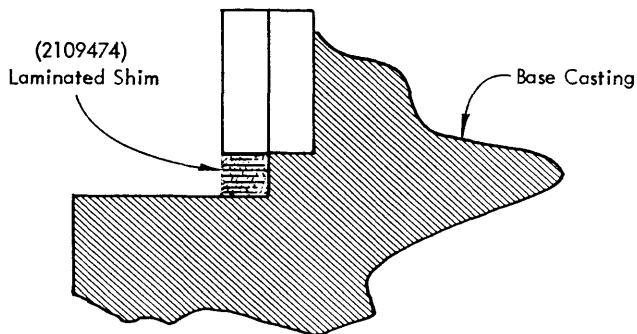

Figure 62. Airfoil Adjustment
#### ADJUSTMENT (FIGURE 62)
3. Clearance  $X$  should be  $.010" \pm .004"$  greater than clearance  $Y$ . Move the airfoil assembly up or down by increasing or decreasing the thickness of the laminated shim (2109474) between the base casting and the airfoil assembly (See Figure 62).